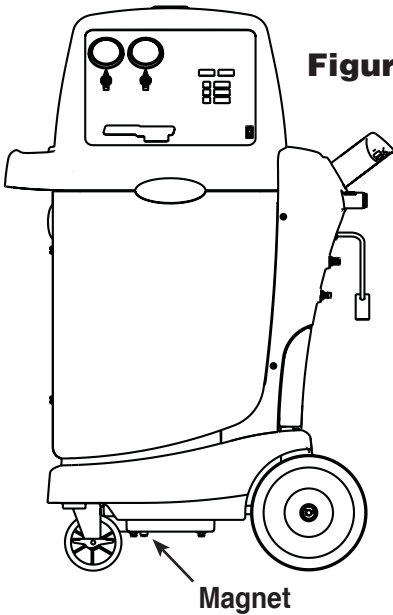

Figure 11
3. Refer to Figure 11, and verify the magnet on the bottom of the unit is clean. Press **START / YES**.